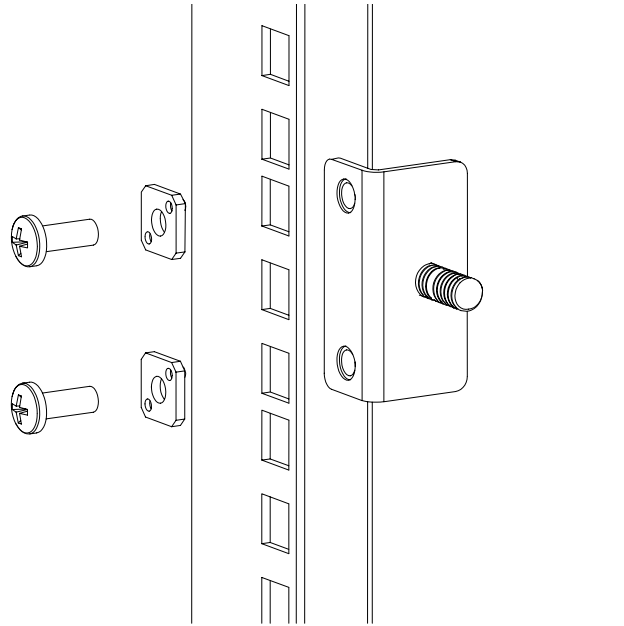

Figure 4: Installing the rear mounting brackets (HP 10000 series or comparable EIA cabinet)
- For an HP 10000 series or comparable EIA cabinet, assemble each of the two brackets with two #10-32 x 1/2-inch Phillips pan-head screws with captive star lock washers and two #10 adapter washers as shown in Figure 4.